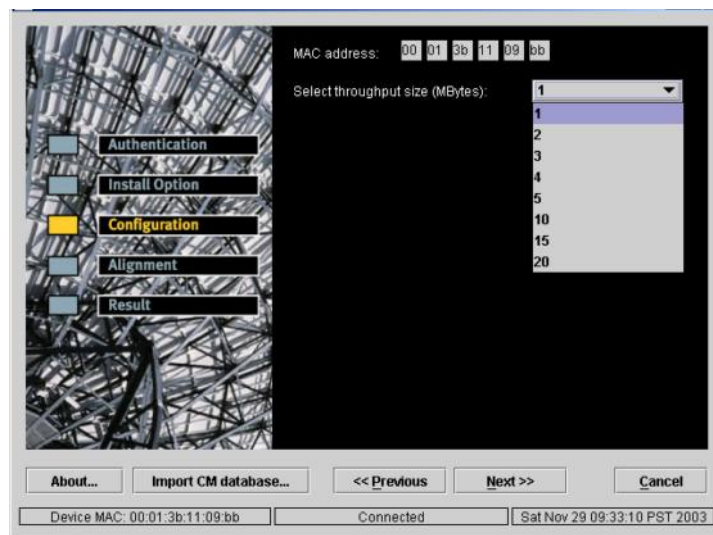

Figure 5-18 Test Configuration Window
3. The Test Configuration window shown in Figure 5-18 will be displayed. Choose the number of megabytes to be transferred; then click on the Next>> button.